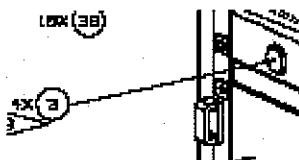

Figure 4
4. Carefully remove four Sill Trunnion Retainers, SDG38117023-001, item 3 in Figure 4.